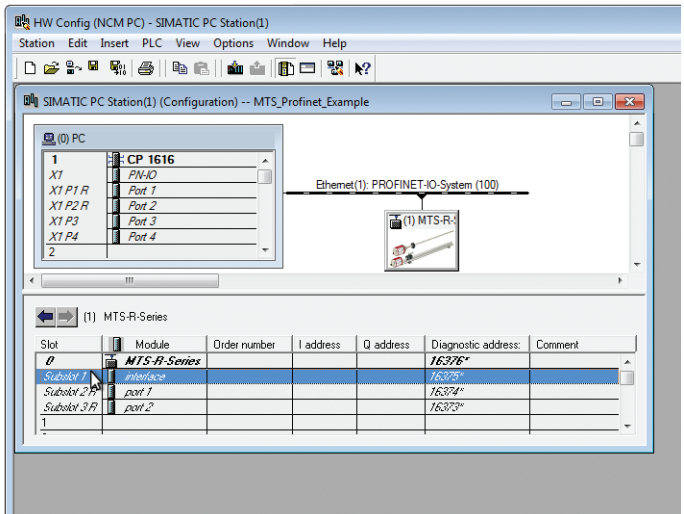
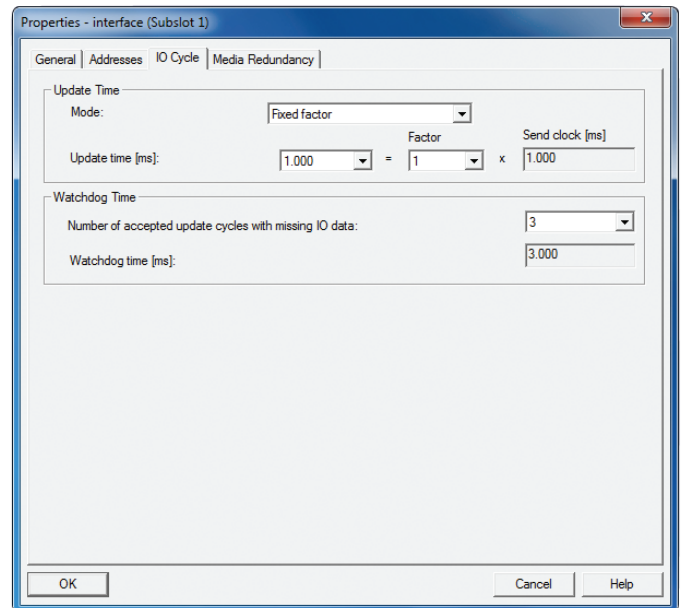

Fig. 39: HW Config (source: Siemens)
Fig. 40: Properties – interface (Subslot 1) (source: Siemens)
5. Double-click Slot "0" → Subslot "1" (Interface) (Fig. 39). Go to tab "IO Cycle" to enter the cycle time setting (Fig. 40).